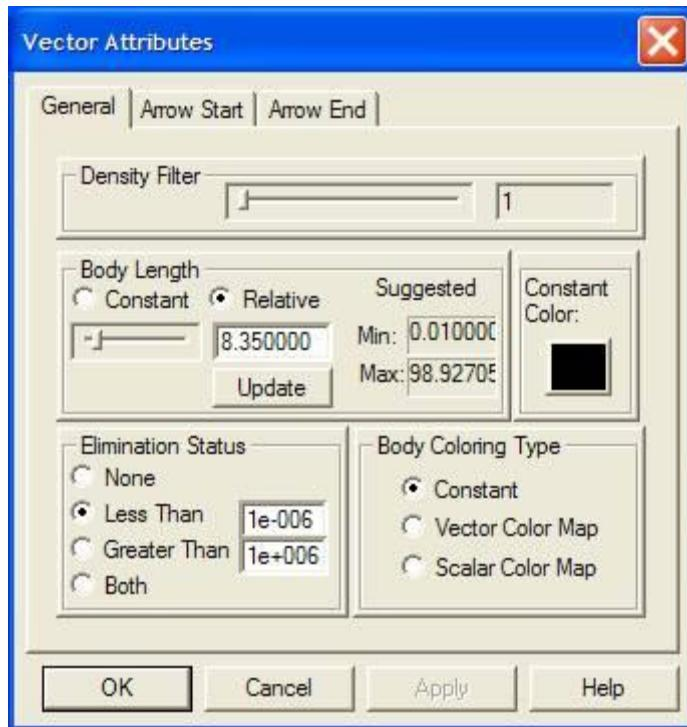

Figure 3.1.3d. The Vector Attributes dialog.
- The default values for the vectors often need adjustment, so double-click on the **Solution / 2D Solution Vector Sets** to bring up the Vector Attributes dialog (fig. 3.1.3d).